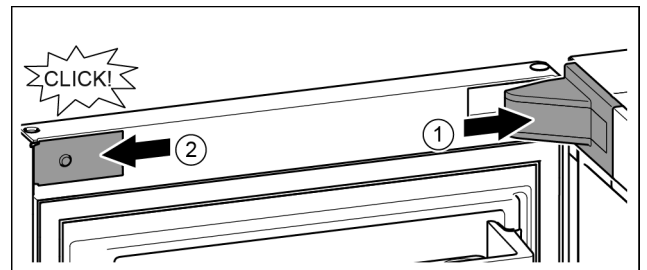

Fig. 22
- ▶ Position the bearing bracket and engage. If necessary push apart carefully. Fig. 22 (1)
- ▶ Position the panel on the side and click into place. Fig. 22 (2)